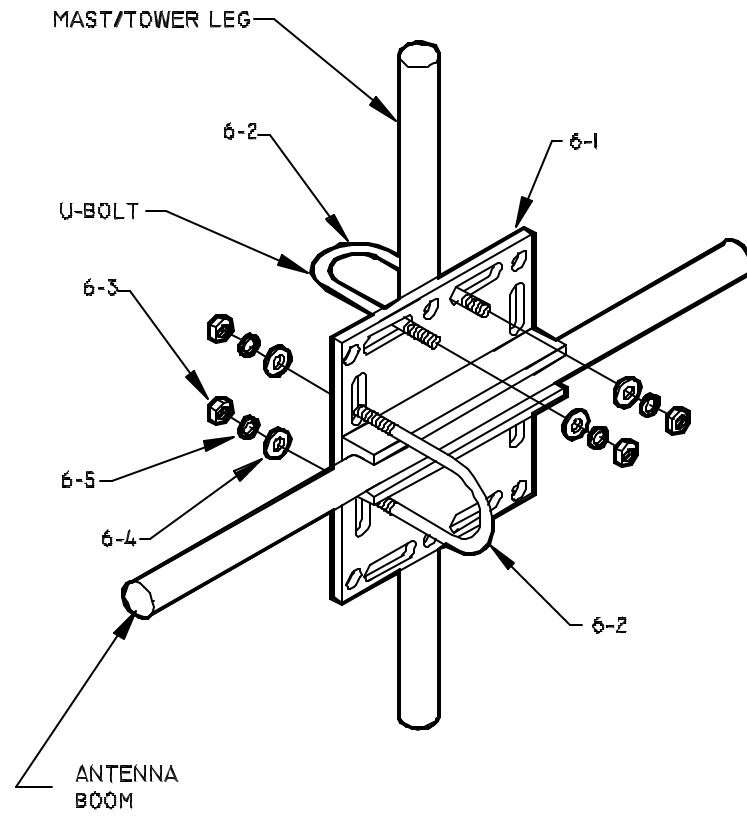

Figure 7
- a. For oversize mast / tower leg (2", 2-1/2", 3-1/2" and 4-1/2") there would be added sixth carton with hardware. For installation see Figure 7. Page 10-10.